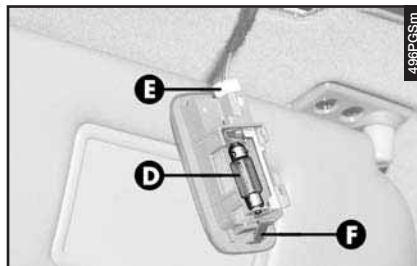

fig. 75
– Remove the bulb (**D-fig. 75**) pulling outwards and releasing from the side contacts.
– Refit the light unit firstly inserting from the side (**E-fig. 75**) and then pressing on the other side until the catch clicks into place (**F-fig. 75**).